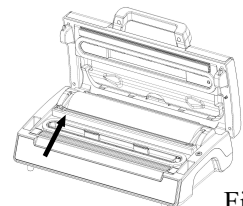

Fig.2
2. Make sure the bag cutter is on one end of the cutter rack. If it's not, then put the cutter rack to one end - **Fig.2**